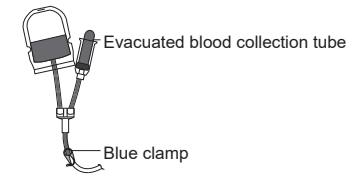

Figure 2: Collecting a whole blood sample
- a. Hold the sample/diversion bag and sample tube holder/luer adapter in one hand with blue clamp [B] positioned at the bottom (see Figure 2).